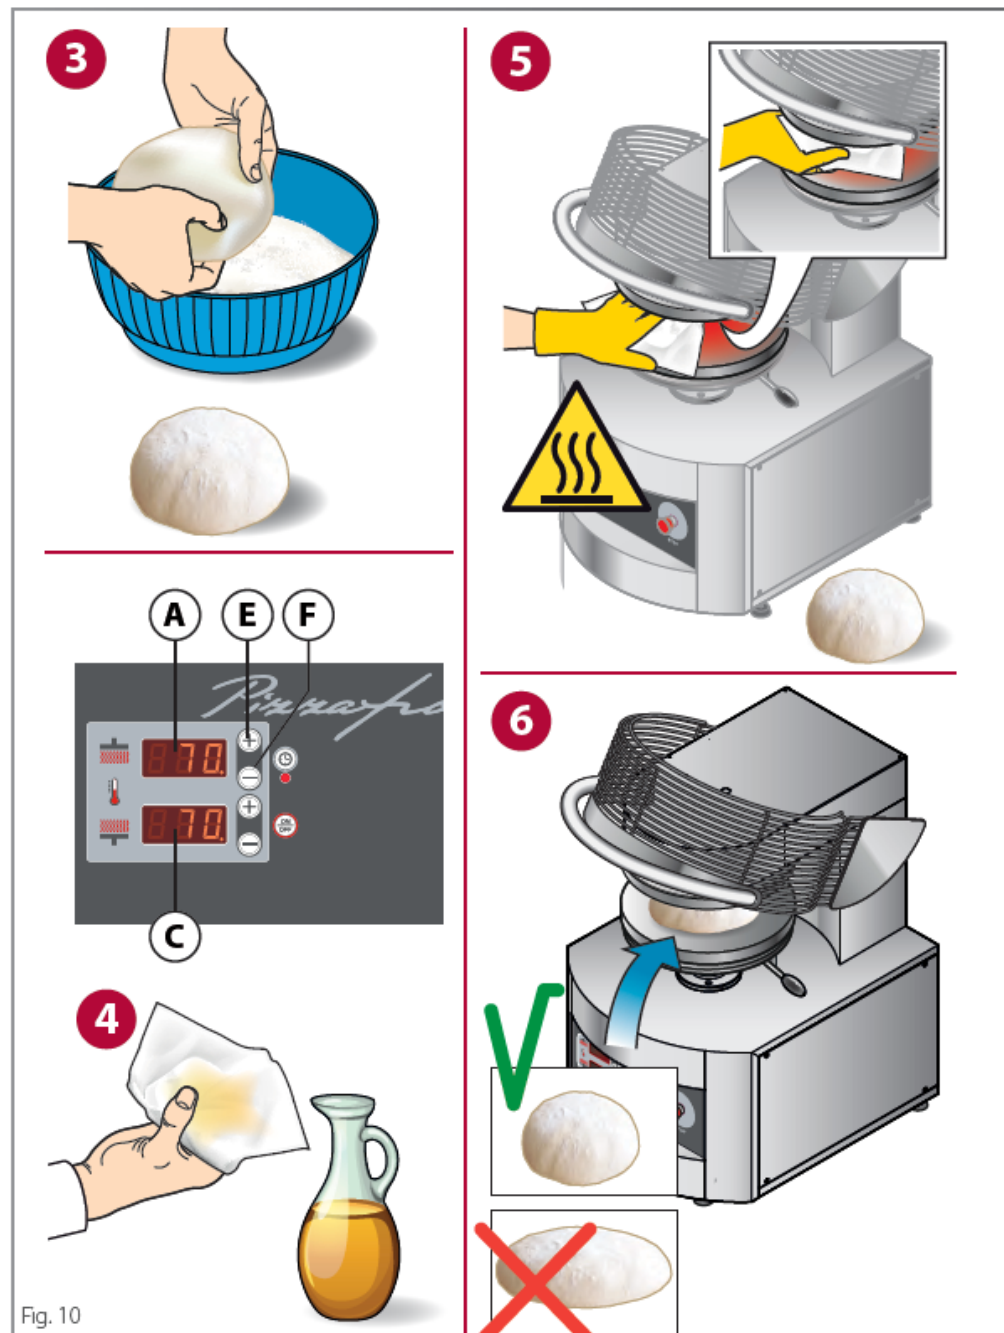

Fig. 10
► Fig. 10
- 4 Wait for the plates to reach the set temperature: the **displays (A) and (C)** show the **real temperatures** of the upper and lower plates (in the example 70°C/ 158°F), to know the **set temperature** (that is to be reached), press the **“+” (E)** or **“-” (F)** keys. The LEDs next to the temperature supply some useful information: